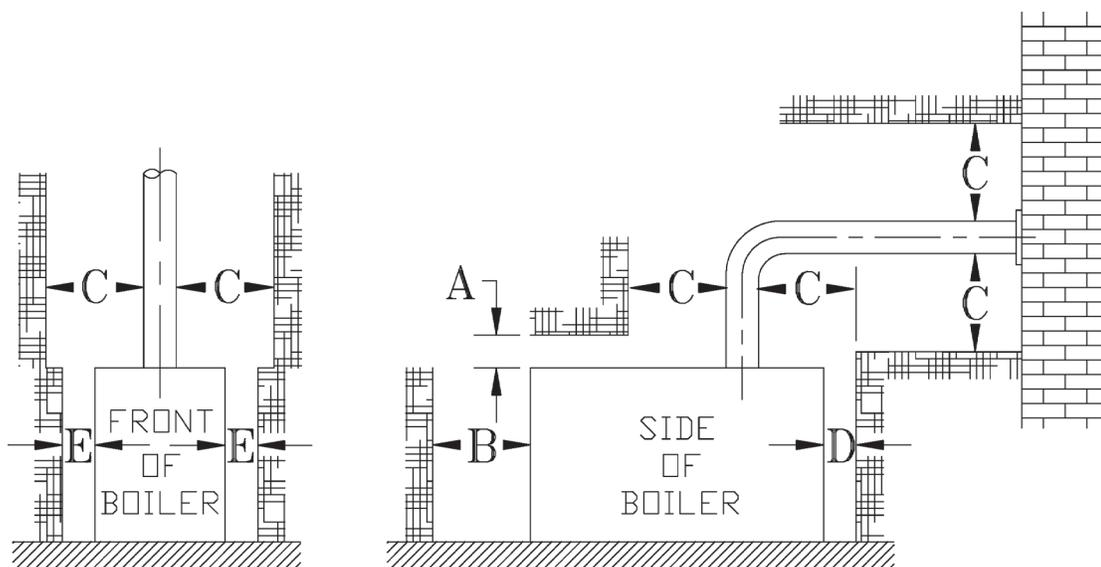

Figure 2-1: Minimum Clearances to Combustible Materials
5. For minimum clearances to combustible materials. See Figure 2-1.
4. Set boiler squarely on top of shield such that base plate of boiler rests flat on top surface of shield and does not over-hang shield on any side. Confirm clearance to combustable walls. Refer to Figure 2-1.
5. **DO NOT** enclose boiler (including shield) on all four sides. Boiler may be enclosed on any three sides while maintaining minimum clearances shown in Figure 2-1 for each of those three sides.